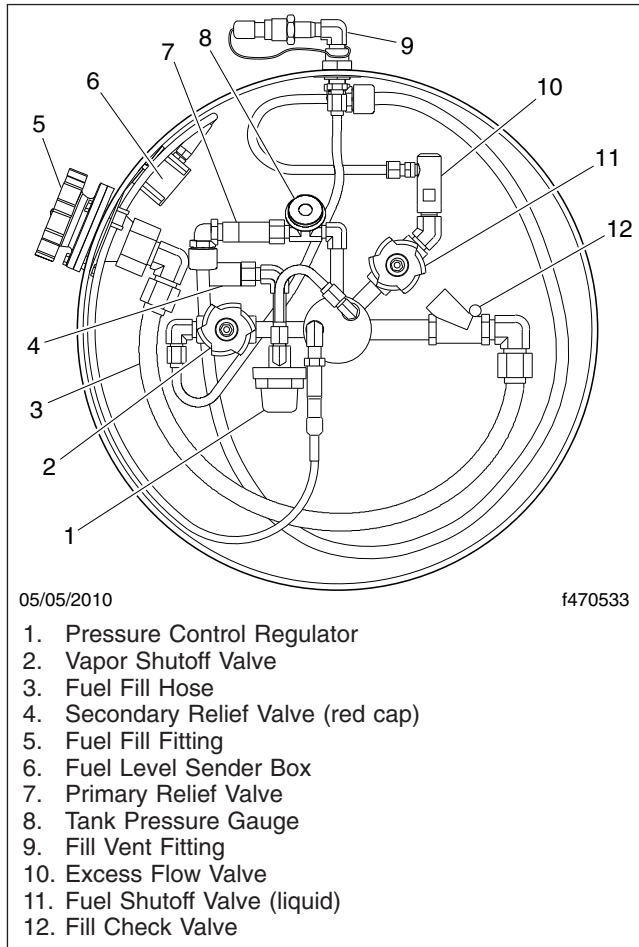
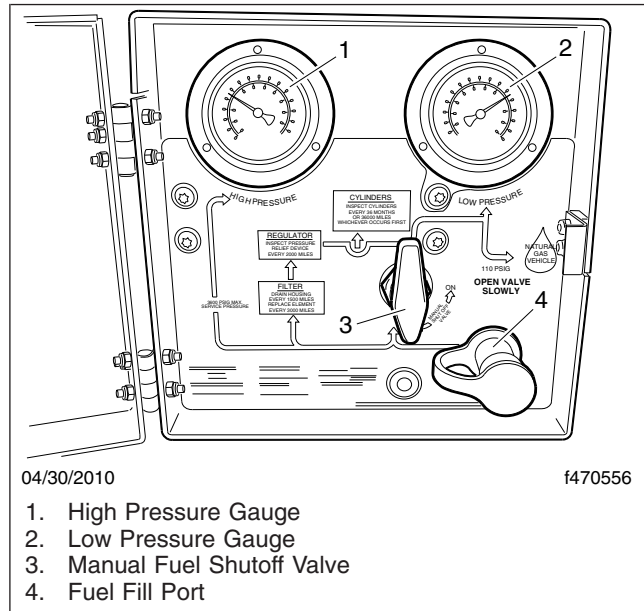

Fig. 21.9, LNG Tank Plumbing Components
Fig. 21.10, CNG Fuel Panel
LNG Fuel System: A red cap should be present on the secondary relief valve (**Fig. 21.9**).
4. Inspect all plumbing components, including the fuel shutoff valve(s), primary and secondary relief valves, and the LNG vapor shutoff and excess flow valves, if equipped, for signs of damage or leaks. See **Fig. 21.9** or **Fig. 21.10**.